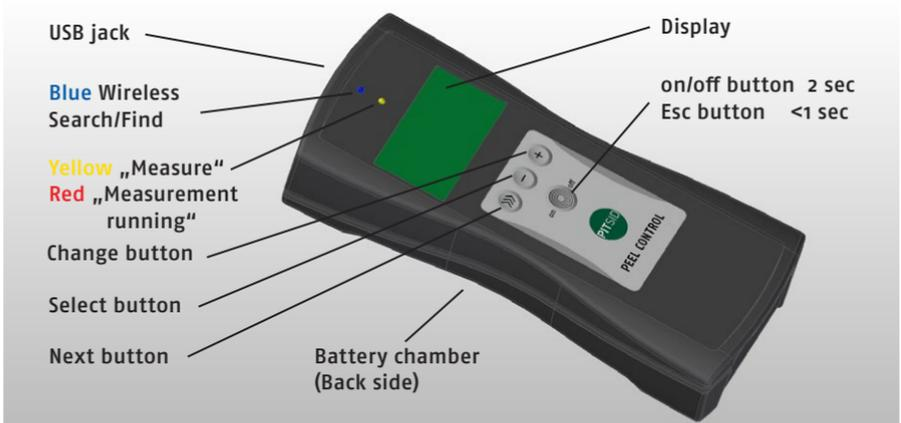
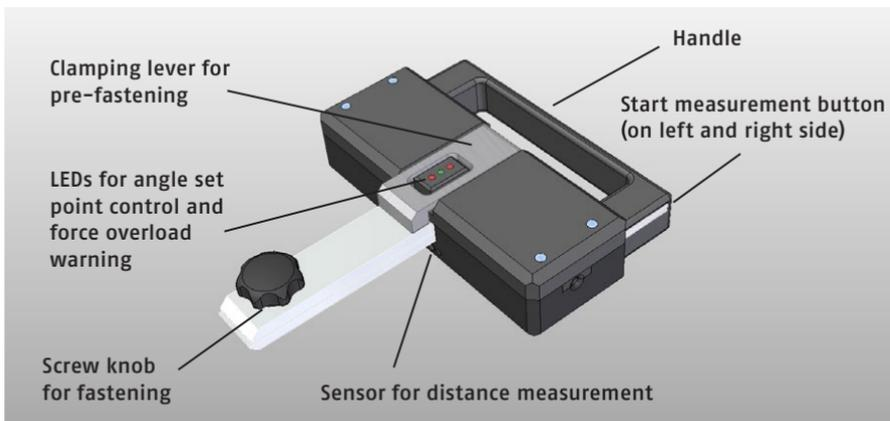

Figure 1: Hand-held unit
Figure 2: Measuring head
- The PEEL CONTROL consists of the hand-held unit (Figure 1) and the measuring head connected with a cable (Figure 2).